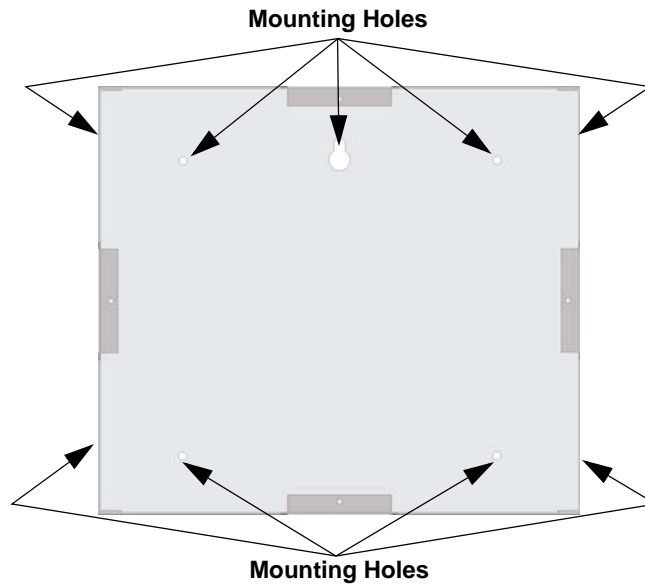

Figure 4-12 Back Box Mounting Holes
1. The back box dimensions are 9-9/32" w x 8-3/8" h. The minimum depth 2". The back box can be mounted prior to the complete installation of the 6855 using any of the mounting holes shown in Figure 4-12.
1. The back box dimensions are 9¼" W x 8 3/8" H. The minimum depth required is 2". The back box can be mounted prior to the complete installation of the 6860 using any of the mounting holes shown in Figure 4-12.